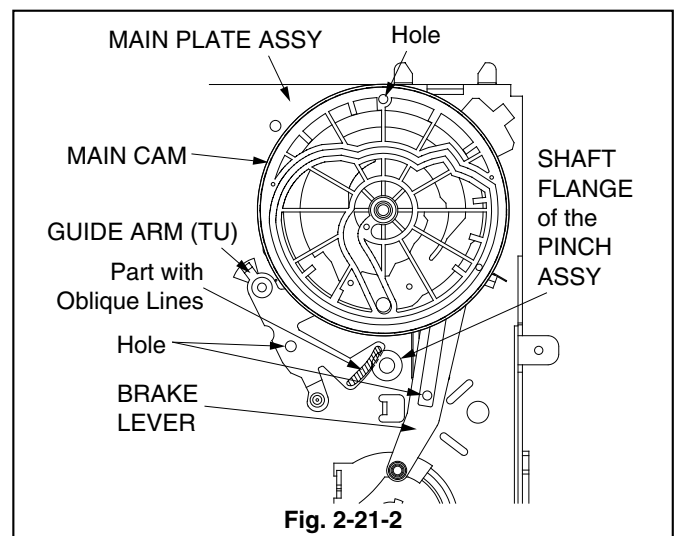

Fig. 2-21-2
3. Install the GUIDE ARM (TU), matching the Hole in the GUIDE ARM (TU) shown in the Fig. 2-21-2 with the Hole in the MAIN PLATE ASSY.
**Note** : Install the GUIDE ARM (TU) so that the Part specified with the Oblique Lines of the GUIDE ARM (TU) will be under the SHAFT FLANGE of the PINCH ASSY.
4. Install the BRAKE LEVER shown in the Fig. 2-21-2 so that the Hole in the BRAKE LEVER overlaps the Hole in the MAIN PLATE ASSY.
6. Install the MAIN CAM so that the Hole in the MAIN CAM shown in the Fig. 2-21-2 overlaps with the Hole in the MAIN PLATE ASSY.
**Note** : Install the MAIN CAM inserting the Pins of the CAPSTAN BRAKE ASSY, GUIDE ARM (TU), BRAKE LEVER into the Grooves on the back of the MAIN CAM for sure.